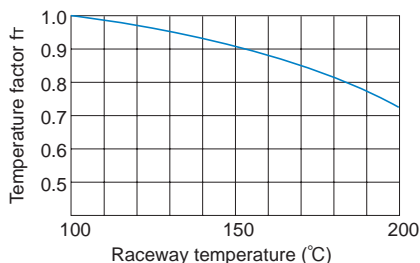

Fig.2 Temperature Factor (fr)
- C : Basic dynamic load rating (N)
- PC : Calculated load (N)
- fT : Temperature factor (see Fig.2 on A-539)
If the temperature of the environment surrounding the operating Linear Bushing exceeds 100°C , take into account the adverse effect of the high temperature and multiply the basic load ratings by the temperature factor indicated in Fig.2.